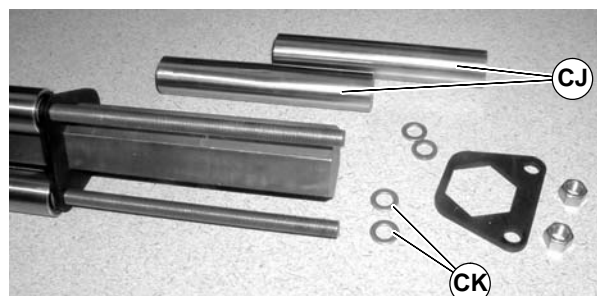

Figure 70
7. Remove pulleys (CJ of Figure 70) and additional washers (CK).